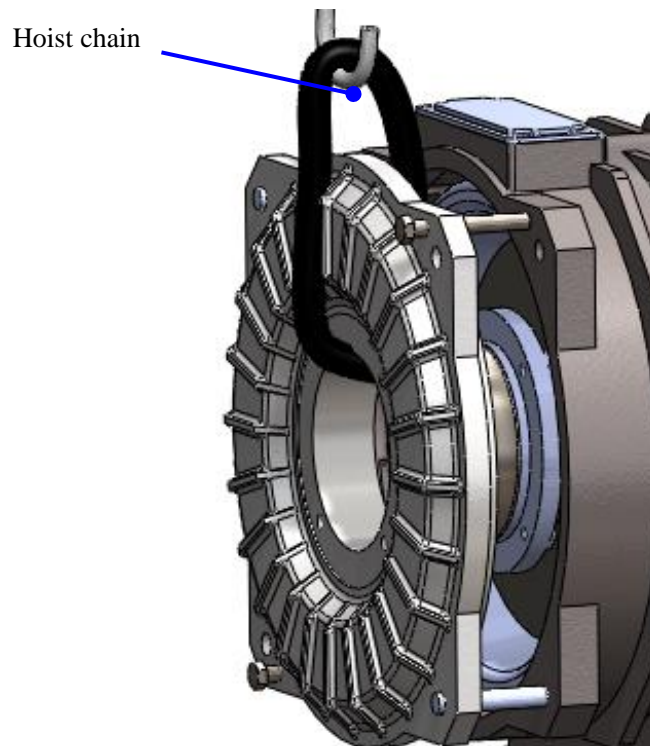

Figure 101: Lift the back cover
6. Use lifting equipment to suspend the back cover, then remove the double end studs (M20x150). Then remove the outside cover. See Figures 101 and 102.